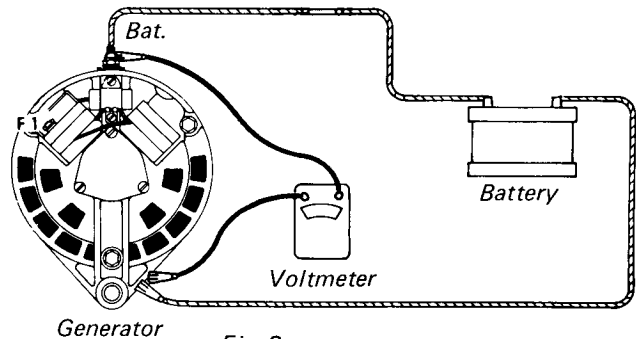

Fig. 2
Step 2. Connect voltmeter from battery terminal to alternator case. See Fig. 2. Battery voltage should be seen on the voltmeter. If battery voltage is not seen, there may be a wiring problem from battery to alternator.